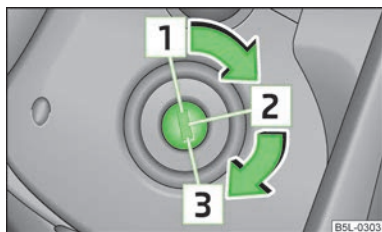

Fig. 95
- When driving, the ignition key must always be in the position **2** » Fig. 95 on page 94 (ignition switched on) without the engine running. This position is indicated by the indicator lights coming on. If this is not the case, it could result in unexpected locking of the steering wheel - risk of accident!
- The starter may only be operated (ignition key position **3** » Fig. 95 on page 94), if the engine is not running. The starter or engine can be damaged if the starter is activated when the engine is running.
If the **steering is locked** and the key cannot or can only be turned with difficulty into the position » Fig. 95, move the steering wheel back and forth and the steering lock will unlock.
- Fully depress and hold the clutch pedal, switch on the ignition » Fig. 95 on page 94 and start - do not operate the accelerator. Depress the clutch pedal until the engine starts.
Switch off the engine by turning the ignition key into position » Fig. 95 on page 94.